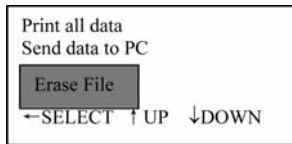

Figure 34
- d. Press  $\leftarrow$  to enter, press  $\downarrow$  or  $\uparrow$  to move the cursor to "Erase file" (As shown in figure 34).